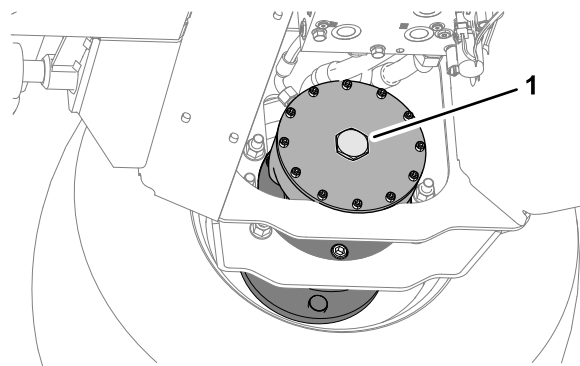

Figure 33
6. At the right, front wheel motor brake assembly remove the hex plug (Figure 33).